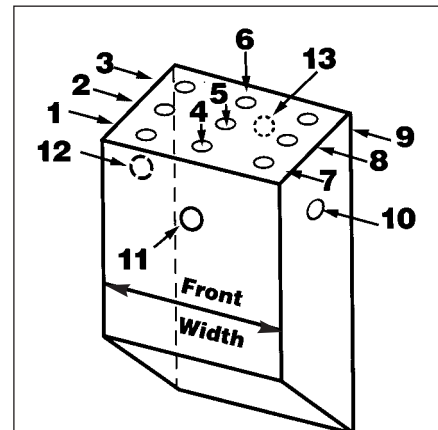

Figure 13. Typical Commutator Brush
**Shunt locations** by position number are illustrated in Figures 13 and 14. When specifying locations, it is important to orient the brush correctly as follows:
- a. Brushes with top and/or bottom bevels: see Figure 13.